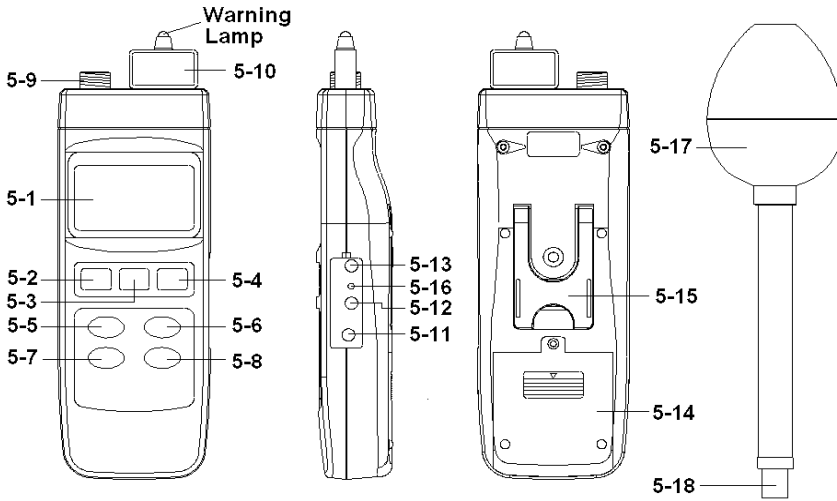

Fig. 1
- 1) Connect the " Probe Plug " (5-18, Fig. 1) into the " Probe Input Socket " (5-9, Fig. 1).
- 2) Plug in the exclusive " Probe Memory Card " (5-10, Fig. 1) into the front end socket of meter.
Make sure to use the " Frequency Team Button " (5-5, Fig. 1)) to select the convenient point that according the measurement object.
After inserting the " Probe Memory Card " (5-10, Fig. 1) and connecting " Probe Plug " (5-18, Fig. 1) into the " Probe Input Socket " (5-9, Fig. 1), use " Unit Button " (5-6, Fig. 1) to select the " V/m, W/m², mW/cm² ".
- 1) Use the " Freq. Team Button " (5-5, Fig. 1) to select the proper frequency team.
- 1) Press the "Alarm Button " (5-8, Fig. 1) once to start the alarm function, while the " units " symbol will flash on the display.
- 2) Press the " Alarm Button " (5-8, Fig. 1) once again to stop the alarm function.
- 3) Press the " Alarm Button " (5-8, Fig. 1) continuously and over 2 seconds, the "Alarm low limit value " will indicate on the lower display, use the " ▼, ▲ Buttons " to adjust the desiring low limit value.
- 4) Press the " Enter Button " (5-4, Fig. 1) will save the low limit value and going to adjust the " High limit value, procedures will similar as above.
- 5) After finish the " High limit value " adjustment, press the " Enter Button " (5-4, Fig. 1) will save the high limit value and going to adjust the alarm Hysteresis value, procedures will similar as above. Upon finish the alarm " Hysteresis value " adjustment, press the " Enter Button " (5-4, Fig. 1) will save the data.
- 6) Press the " ESC Button " (5-3, Fig. 1) to finish alarm setting procedures.
During the measurement, press the " Hold Button " (5-3, Fig. 1) once will hold the measured value & the LCD will indicate a " HOLD " symbol.
- * The data record function records the maximum and minimum readings. Press the " REC Button " (5-4, Fig. 1) once to start the Data Record function and it will be a " REC " symbol on the display.
- a) Press the " REC Button " (5-4, Fig. 1) once, the " REC MAX " symbol along with the maximum value will appear on the display.
Press the " REC Button " (5-4, Fig. 1) once again, the " REC MIN " symbol along with the minimum value.
If intend to delete the maximum (Minimum) value, just press the " Hold Button " (5-3, Fig. 1) once, then the display will show the " REC " symbol only & execute the memory function continuously.
- b) To exit the memory record function, just press the " REC Button " 5-4, Fig. 1) 2 seconds continuously at least. The display will revert to the current reading.
Press the " Peak Hold Button " (5-7, Fig. 1) once to latch peak value on the display , press once again to exit the peak hold function.
To de-activate this feature, Select the memory record function during measurement, by pressing the " RECORD " button (5-4, Fig. 1).
The instrument has RS232 PC serial interface via a 3.5 mm terminal (5-12, Fig. 1).